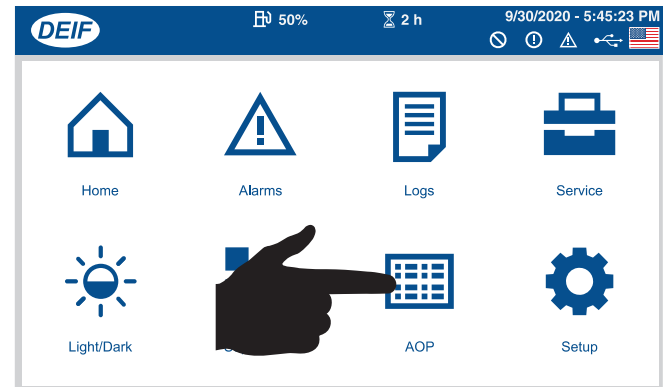
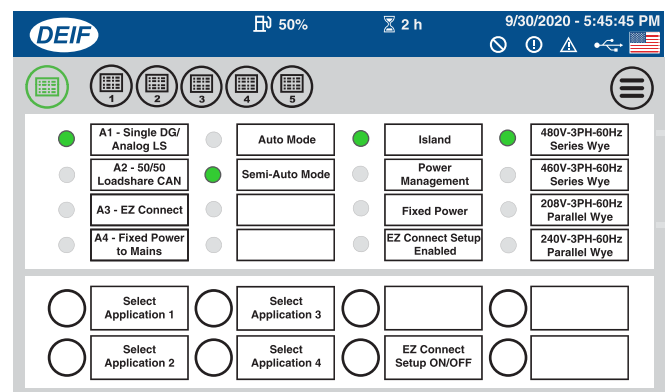

Figure 68. AOP Button (Main Menu Screen)
Figure 69. Operating Status (Main AOP Screen)
18. If desired, press the **AOP** button on screen 1 of 7 (Figure 46) **or** press the **AOP** button on the **Main Menu** screen (Figure 68) to view the operating status of the generator as shown in Figure 69.